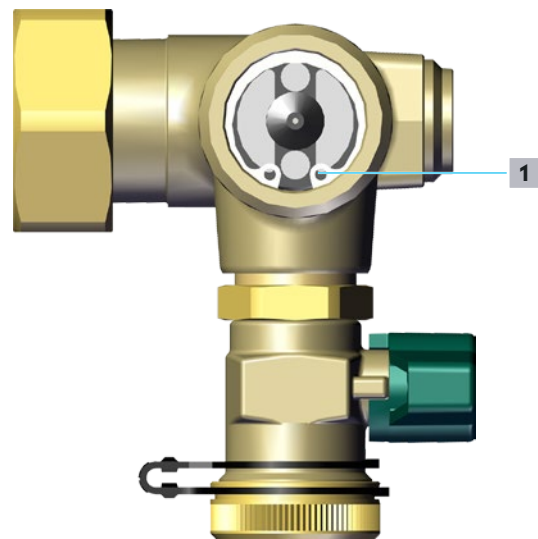

Fig. 33: Circlip
- 1 Loosen the circlip (position 1 in Fig. 33 on page 50) with suitable circlip pliers.
- 2 Insert the circlip (position 1 in Fig. 33 on page 50).